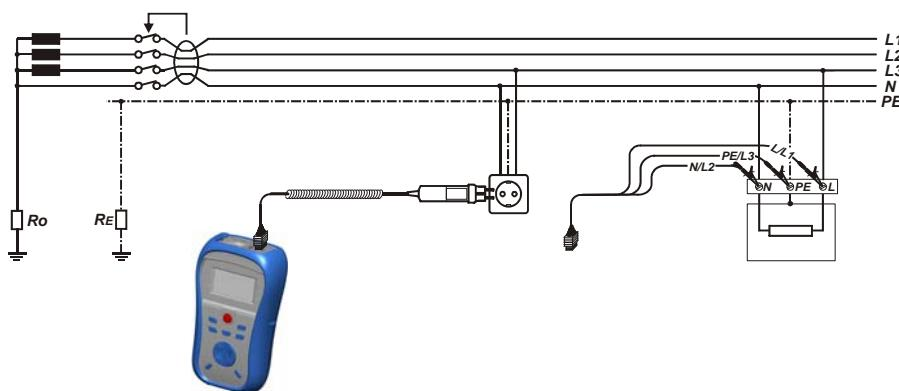

Figure 5.22: Connecting the plug cable and the universal test cable
- Connect** test leads to the item to be tested (see *figure 5.22*).
<ul style="list-style-type: none"> □ Select the RCD function using the function selector switch. □ Set sub-function AUTO. □ Set test parameters (if necessary). □ Connect test cable to the instrument. □ Connect test leads to the item to be tested (see figure 5.22). □ Press the TEST key to perform the test.